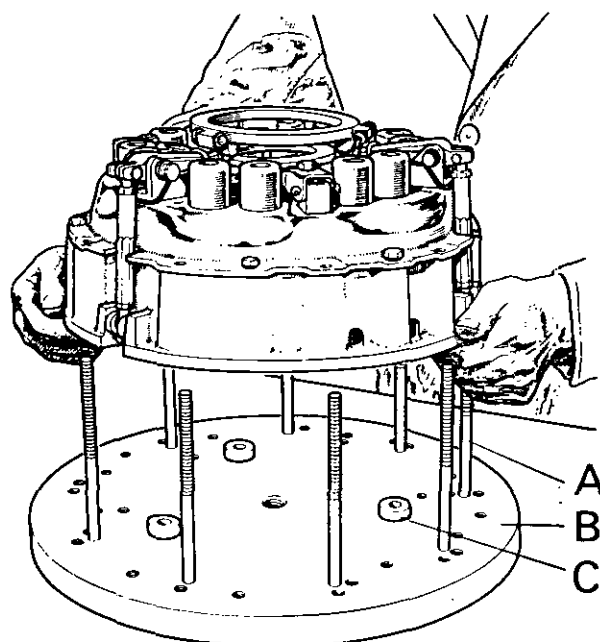

Figure 35.
2. Place three Code 3 spacers, evenly spaced, on the baseplate. Slide clutch assembly on the bolts and position the three spacers so that they are adjacent to the three PTO pressure-plate toggle lugs. (Fig. 35.) Fit a flat washer and nut on each bolt. Tighten the nuts evenly, and by diametrical selection, until clutch and baseplate are clamped firmly together.